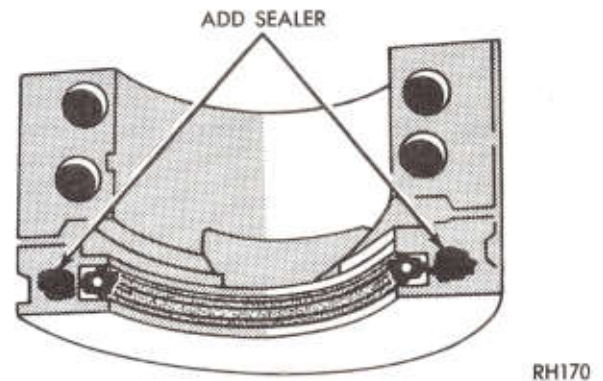

Fig. 53—Rear Main Bearing Cap (360 Engine)
- (1) Lightly oil lips of crankshaft seals.
- (2) Rotate half seal into cylinder block with paint stripe toward rear. Be careful not to shave or cut outer surface of seal.
- (3) Place the other half seal in bearing cap with paint stripe toward rear.
- (4) Apply RTV sealer adjacent to rubber seal (Fig. 53). Assemble bearing cap to block immediately after applying sealer. Install cleaned and oiled bolts. Torque to 85 ft. lbs. (115 N·m).